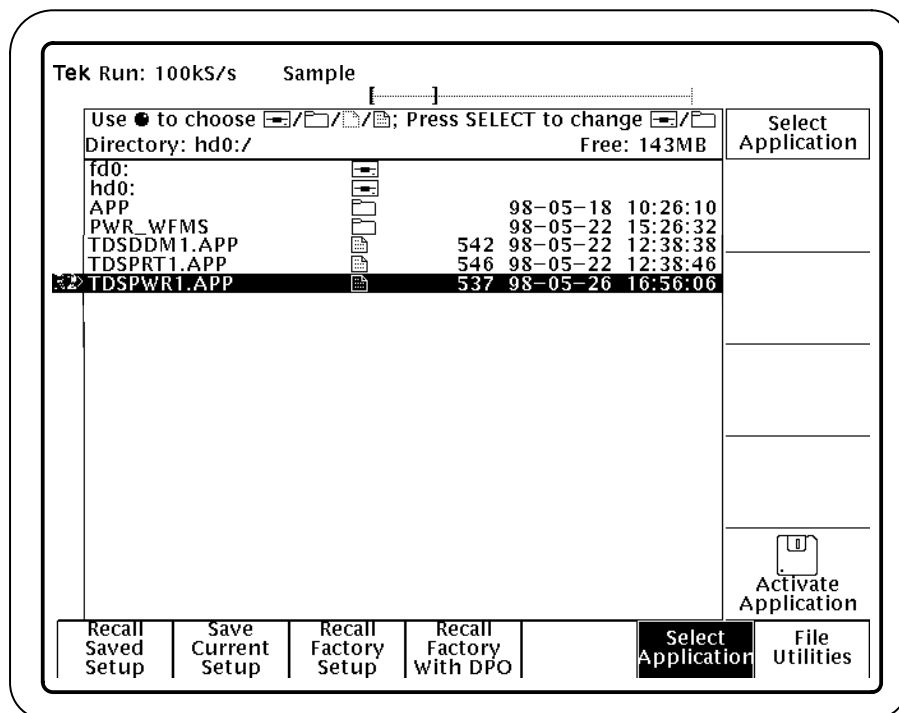

Figure 4: Starting the application
2. Use the general purpose (GP) knob to select hd0, and press SELECT.
3. Use the GP knob to select the TDSPWR1.APP title, as shown in Figure 4, and press Activate Application (side).
1. Press **SETUP** → Select Application as shown in Figure 4 on page 7.
2. Use the general purpose (GP) knob to select hd0: and press **SELECT**.